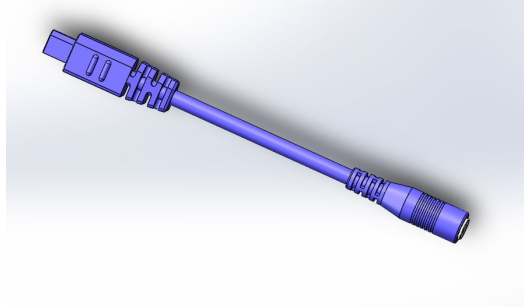

Figure 3a Temperature Cable Adapter
8. If using a third-party Foley with a round 3.5mm temperature connector, use the Accuryn Temperature Cable Adapter (Figure 3a) to adapt this Foley to the Accuryn Temperature Cable.